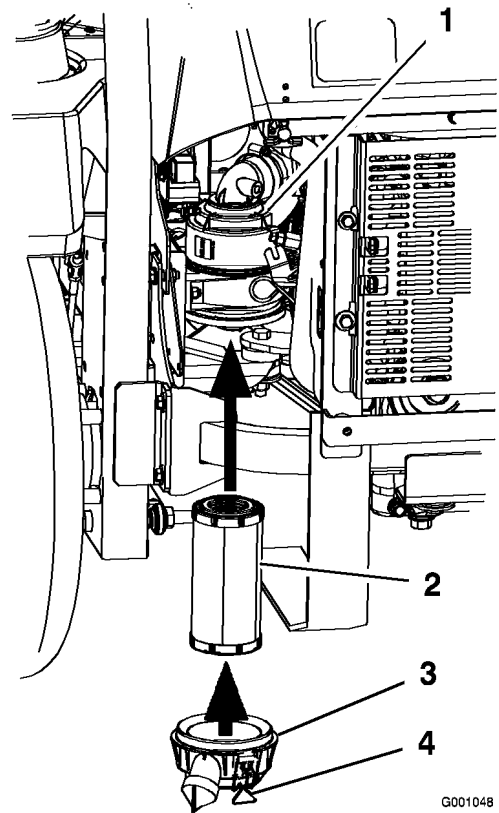

Figure 33
2. Carefully slide the filter into the filter body (Figure 33). Ensure that it is fully seated by pushing on the outer rim of the filter while installing it.
3. Install the air cleaner cover and secure the latches (Figure 33).